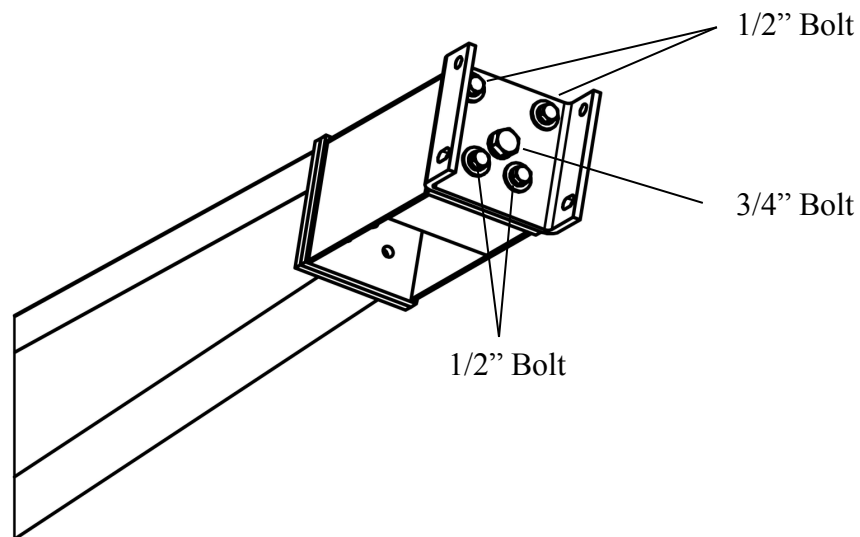

Figure 5
10. To level the backboard in the horizontal plane, loosen the four 1/2" bolts and the one 3/4" bolt in the center of the Quick Change Bracket attached to the boom. Refer to figure 5. Level the board and tighten all bolts securely.